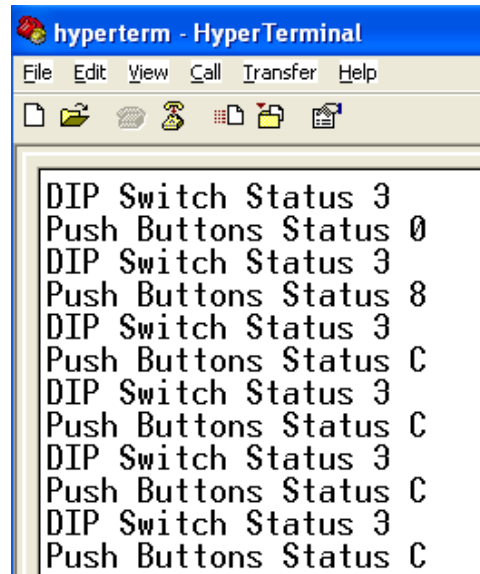

Figure 1-35. Push button and DIP switch status displayed on hyperterminal
❺ After pressing the **buttons** and toggling the **switches**, and you should see the corresponding values being displayed on the HyperTerminal (**Figure 1-35**)